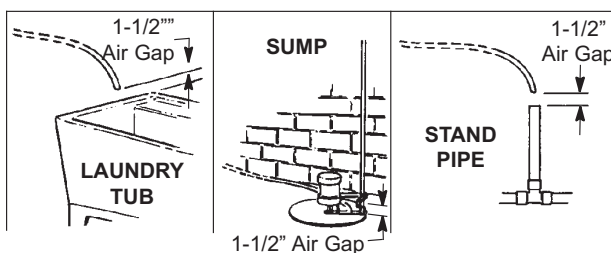

FIG. 5
- Take a length of 5/8" inside diameter garden hose and attach to the valve drain fitting (See Figure 5 on page 6).
- Locate the other end of the hose at a suitable drain point (floor drain, sump, laundry tub, etc.). Check and comply with local codes. Refer to Figure 5 on page 6 if codes require a rigid pipe drain run.
- Place bypass valve(s) into "bypass" position. On a single valve, slide the stem inward to BYPASS (See Fig. 5 on page 6). On a 3 valve system, close the inlet and outlet valves, and open the bypass valve (See Fig. 4 on page 6).